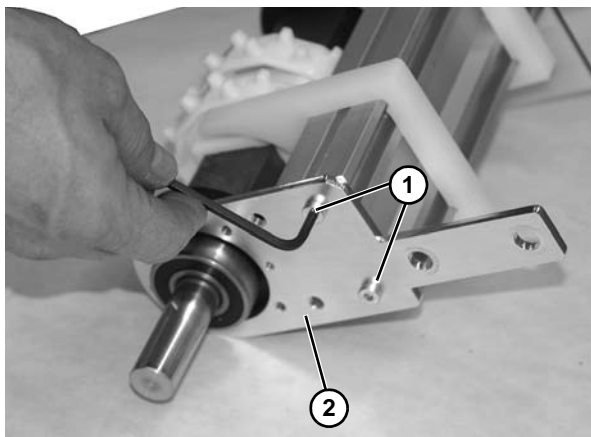

Figure 53
9. Remove two socket head screws (Figure 53, item 1) from drive backing plate (Figure 53, item 2).